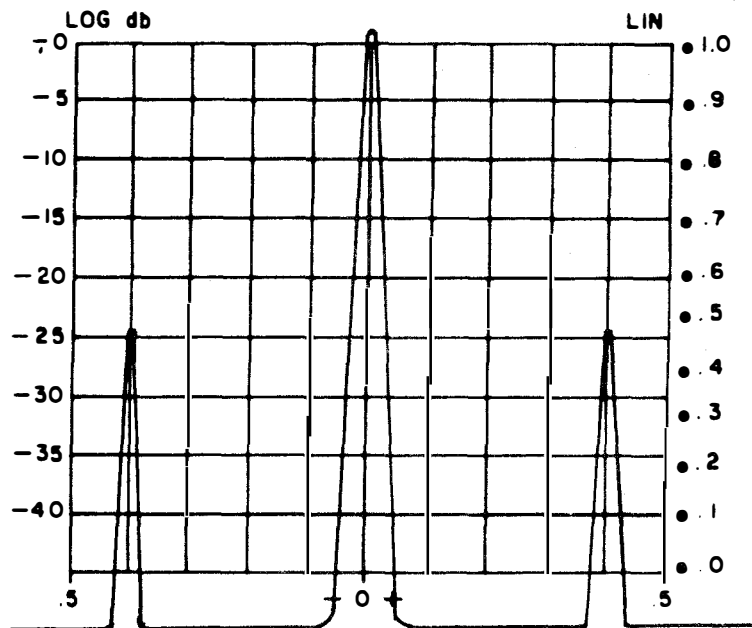

FIGURE 3-2
- a. Figure 3-2 shows a 500kc signal modulated at 800cps' SWEEP WIDTH in 2kc. Amplitude SCALE set on LOG position.